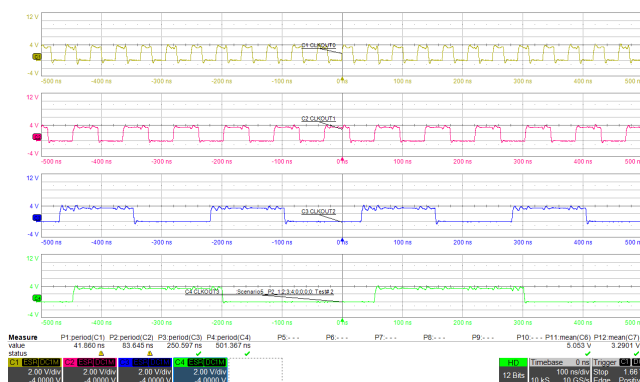

Figure 25. Example Scenario 5: Period
- Scenario 5 (Figure 24 and Figure 25) – All four outputs are at different frequencies